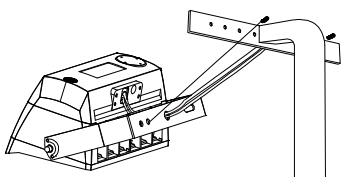

Figure 12
3. Flood Mounting (FM)
- STEP 1:** Drill holes on the wall as shown. (FIGURE 12)